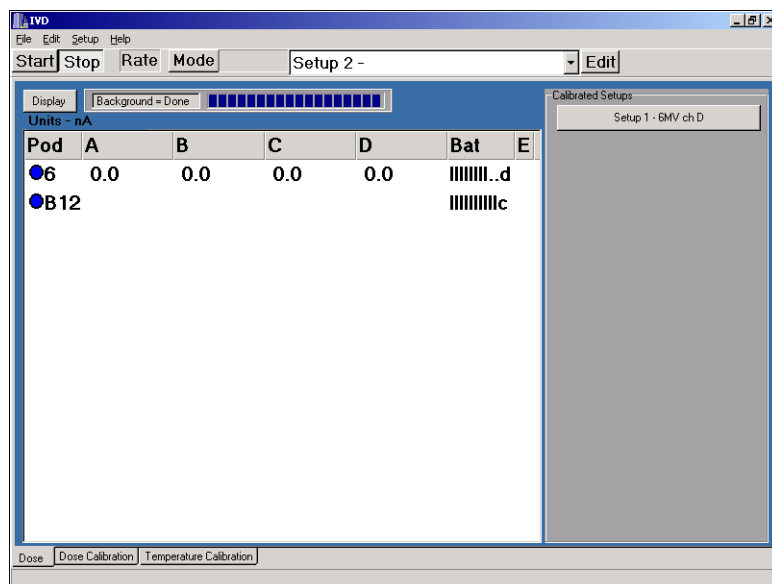
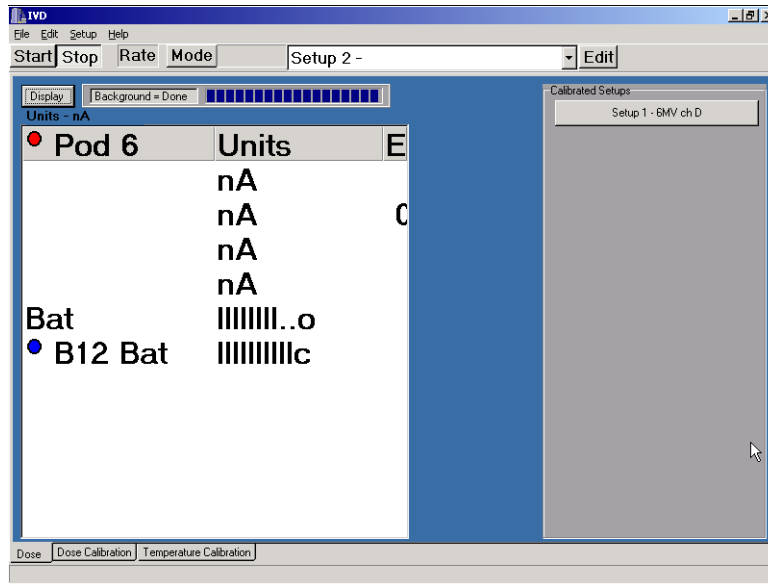

Figure 4-2. Dose view—multiple pod display
Figure 4-3. Dose view—single pod display
Dose view (Figure 4-2) is the normal operating view used by the technician for daily In Vivo Dosimetry.
- Display button—toggles between the multiple Pod display (Figure 4-2) and the single Pod display (Figure 4-3).